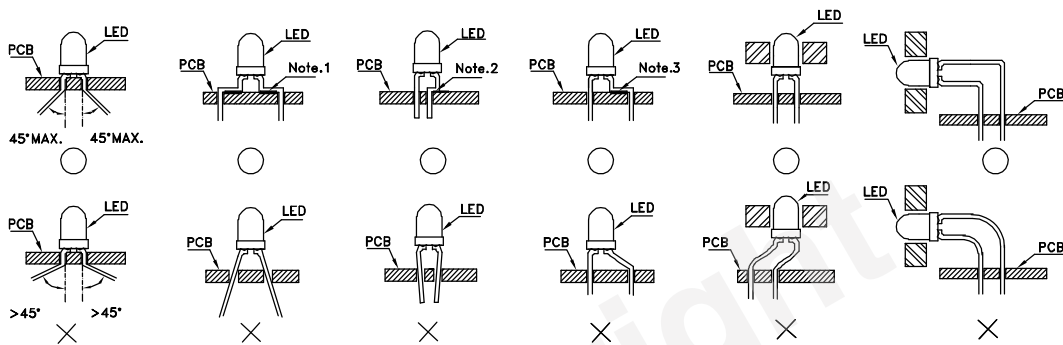

Fig. 1
- 2. The lead pitch of the LED must match the pitch of the mounting holes on the PCB during component placement. Lead-forming may be required to insure the lead pitch matches the hole pitch. Refer to the figure below for proper lead forming procedures. (Fig. 1)